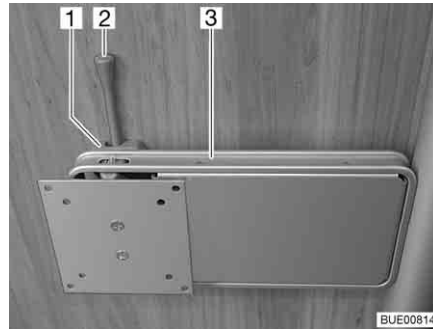

Fig. 63 Holder on the column
- Push the release lever (Fig. 63,2) to the side and turn the holder (Fig. 63,3) with the flat screen to the desired position.
- Turn flat screen back until the holder (Fig. 63,3) engages in the lock (Fig. 63,1).